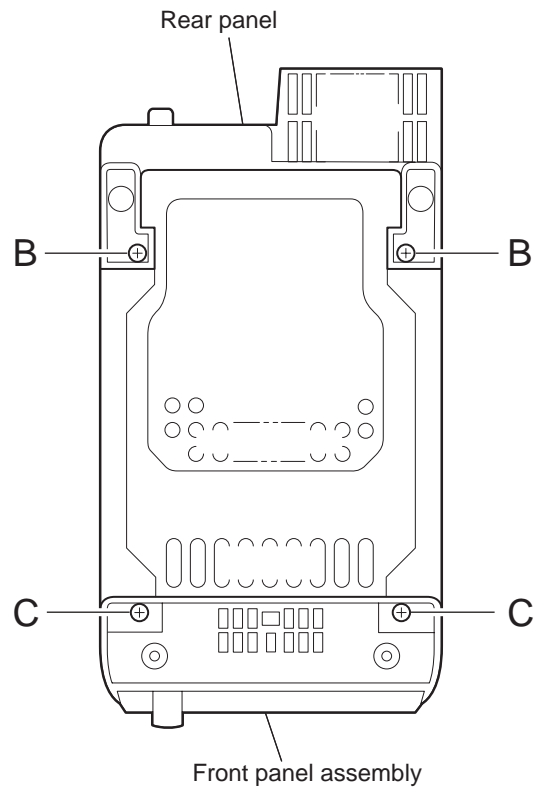

Fig.2
### 2.1.2 Removing the side panel (L) and (R) (See Fig.2~5)